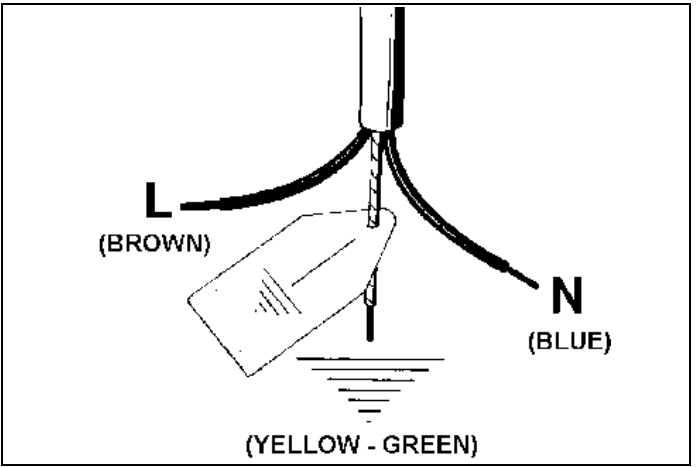

Fig. 10
- If the power cord does not already have a plug, fit a regulation plug, which must be suitable for the rated load specified on the appliance data plate. Connect the wires of the power cord in accordance with the diagram in Fig. 10 , ensuring you follow the harmonized wiring color scheme: